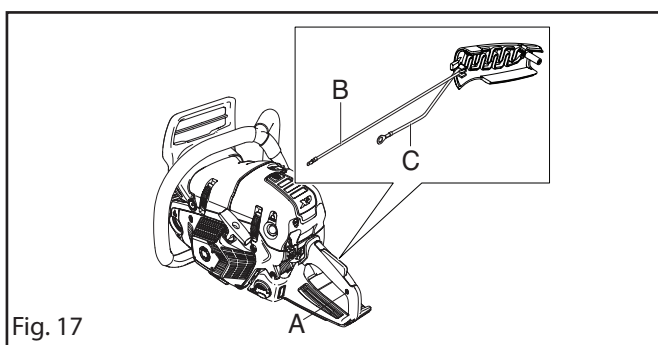

Fig. 17
- Unscrew the screw in the rear handle (A). See figure 17.
- Remove the cable connections (B and C). See figure 17 and 18.